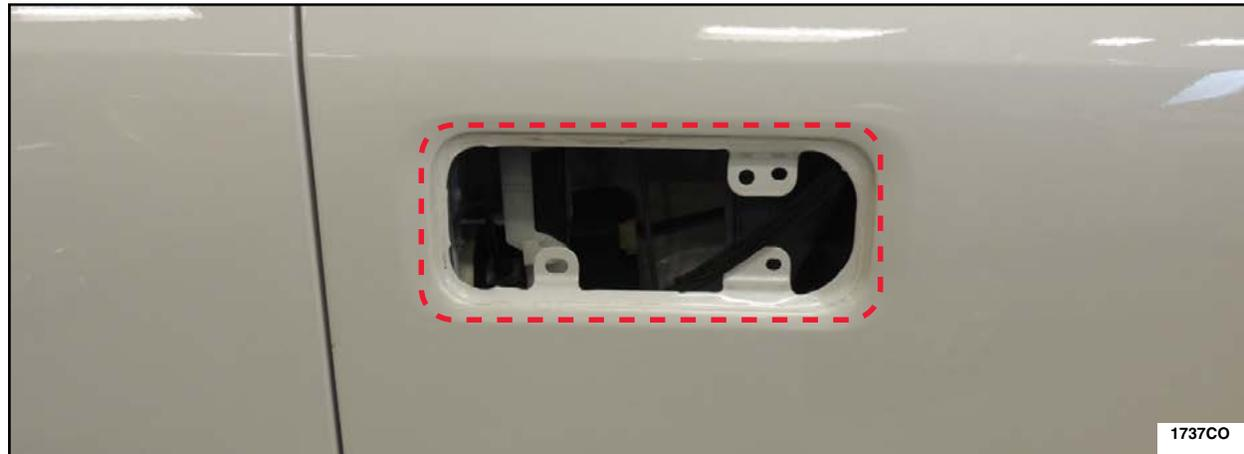

FIGURE 23
28. Using a clean shop towel and isopropyl alcohol clean inside the dotted lines on the mating surface area of the front exterior door handle opening. See Figure 23.